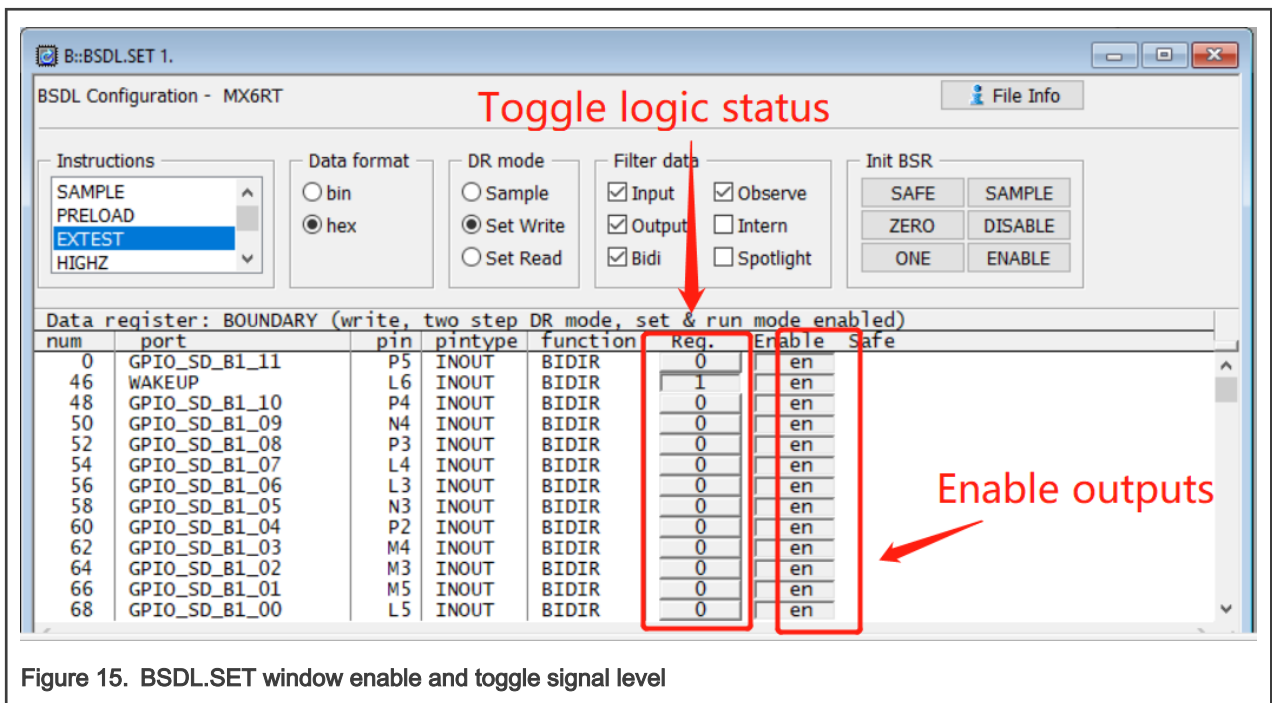

Figure 15. BSDL.SET window enable and toggle signal level
- Switch back to BSDL.SET window, click the buttons in the **Enable** column to enable output of corresponding signal pins and click the buttons in "Reg." column to toggle their output logic state 0 or 1. Use a multimeter to measure if the logic state really toggles on those signal pins. At least three signal pins need to be verified. Then RELOAD/EXTEST check pass other pins, as shown in Figure 15.